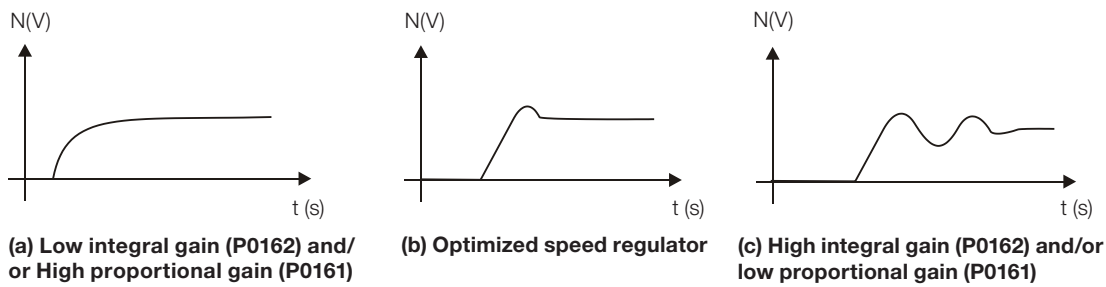

Figure 11.4: (a) to (c) Speed regulators response types
6. Verify among the options of the Figure 11.4 on page 11-14, which waveform best represents the observed signal.
7. Adjust P0161 and P0162 according to the response type presented in the Figure 11.4 on page 11-14.